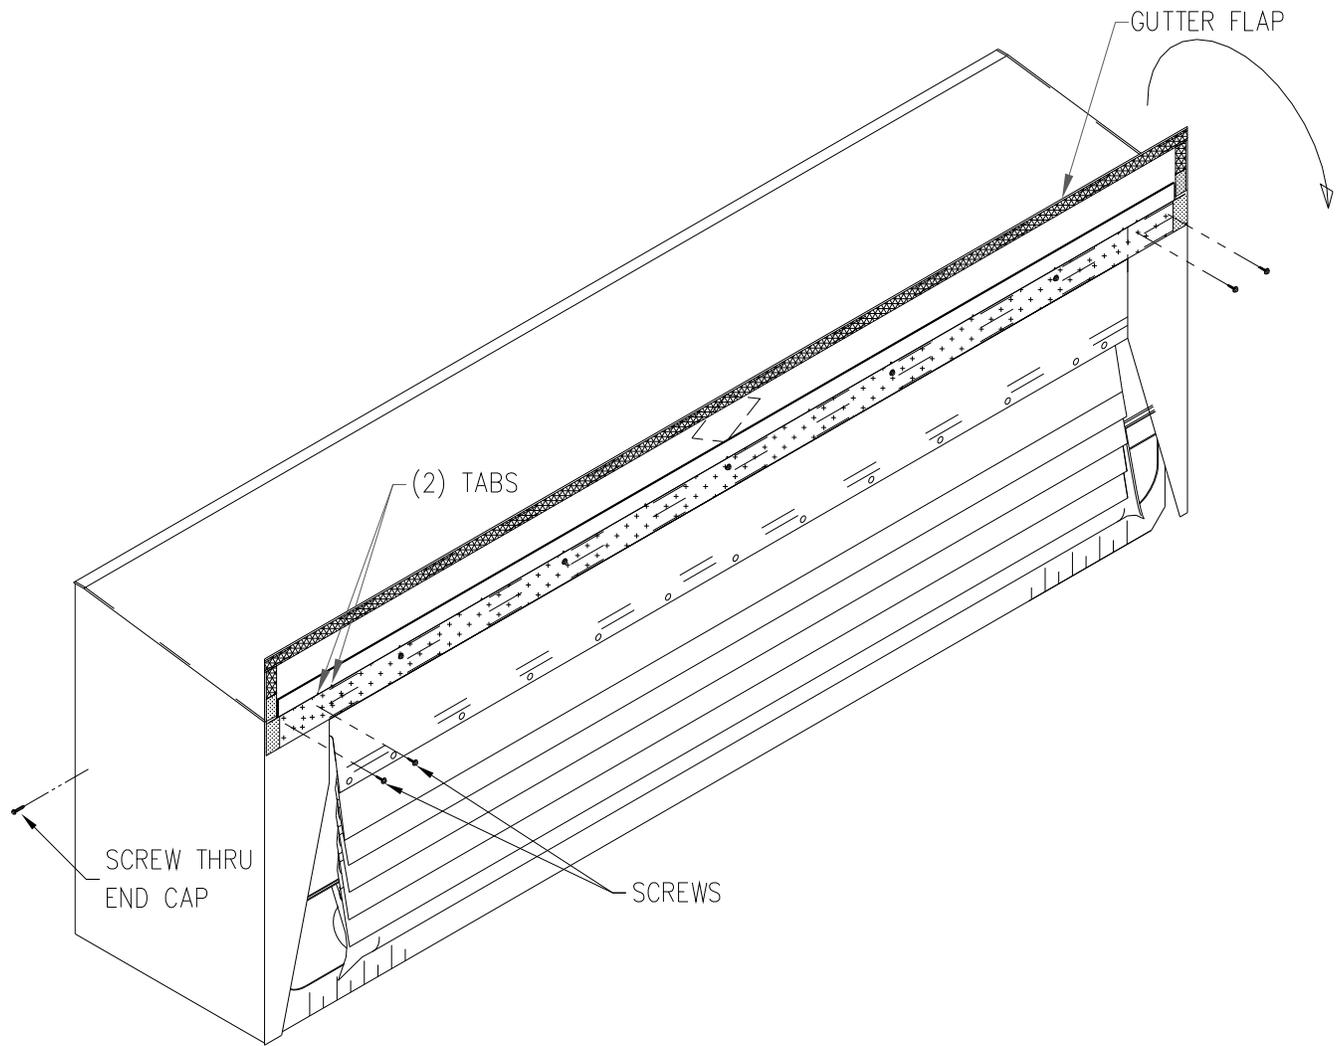

FIGURE 25
9. Attach the front flap ends to the front bar by using the self drill/tapping screws provided going through the face of the impact panel velcro. (See Figure 25) Attach (1) screw in between the two outside fabric tabs and (1) screw approximately 3"-4" off the outside edge. There is a lot of fabric build, so washers cannot be used. Make sure both screws land on the end cap velcro, adjust location if needed.
9. Flip down the gutter flap and attach by matching the velcos. The velcro bottom edge on the gutter flap should align with the bottom velcro edge on the front flap and on the impact plate assembly that runs across the face. Adjust as needed to make sure the flap looks horizontal. Finally, attach the endcaps to the side members. Remove (1) screw from the side member mounting bracket located behind the endcap and re-install it going thru endcap fabric to hold it down. (See Figure 25)